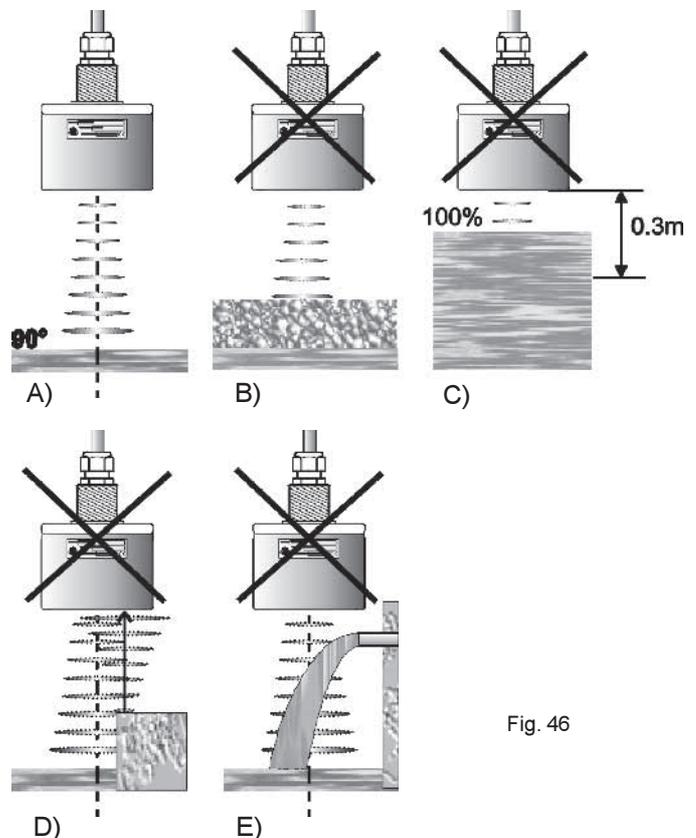

Fig. 46
To reach a good and safe measurement, avoiding spurious echo (not reflected from the surface to measure) need to take care about the sensor sensibility volume in the sound path, no obstacles or objects must be present into the sensibility volume (lobe), see fig.46/D/E.
On fig.46 some suggestion:
- 1) Install perpendicular at the surface, see fig.46/A
- 2) Don't use with foaming products, see fig.46/B
- 3) Avoid installation where the product distance could be less than 0.3m for PTU05, 0.4m for PTU10 and 0.7 for PTU15, see fig.46/C
- 4) No obstacles or objects must be present into the sensibility volume, see fig.46/D/E